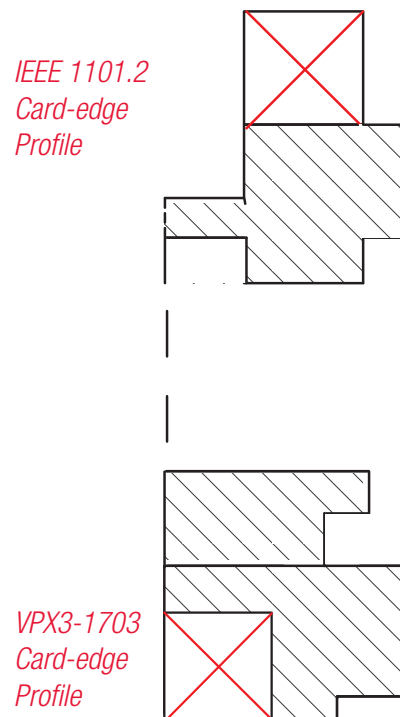

Figure 3: Card-edge profile deviates from IEEE 1101.2
To minimize the temperature rise from the mating slot wall of conduction-cooled enclosures to the back-side thermal interface region of the VPX3-1703, the thermal frame maximizes the thermal interface area by extending the frame to the full width of the card, as illustrated in Figure 3. This deviation from the IEEE 1101.2 standard, which calls for the thermal frame to be notched for compatibility with card guides in standard air-cooled chassis, has the benefit of lower card operating temperatures and increased long term reliability. During test and integration activities where it may be desirable to install a conduction-cooled VPX3-1703 into an air-cooled card-cage, this can normally be accomplished simply by removing the card guides.
3. Refer to the deviation from IEEE 1101.2 in Figure 3.